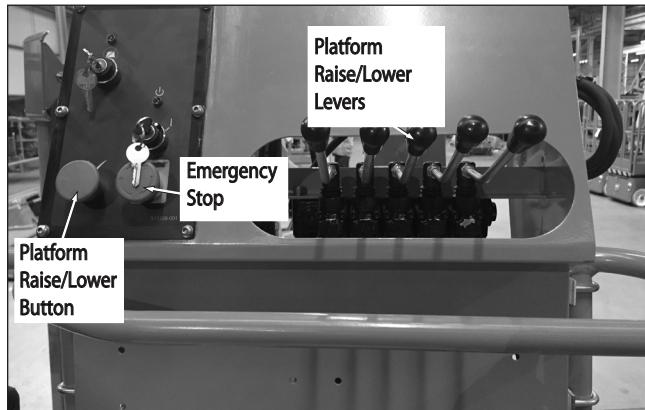

Figure 9.2 – Upper Controls
4. From the upper controls, twist and pull the emergency stop button outward (refer to Figure 9.2).